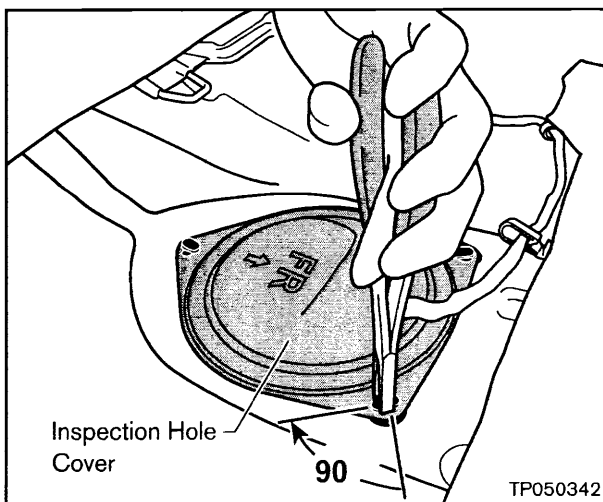

Figure 3a
- a. Turn each Attachment Clip 90° (see Figure 3a).